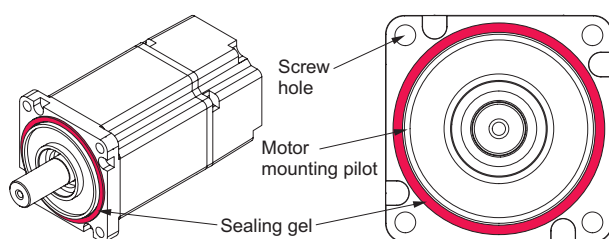

Figure 9: Sealing gel applied on the motor flange.
- Apply the sealing gel **26** to the cleaned flange of the motor **7** as it is presented on the Figure 9 (the gel must be applied continuously in a closed loop around the motor mounting pilot on surface that comes into the direct contact with tensioning plate **6** (make sure that the screw hole are outside the sealing gel); it should be noted that surface shape may vary depending on the motor manufacturer, model and size).